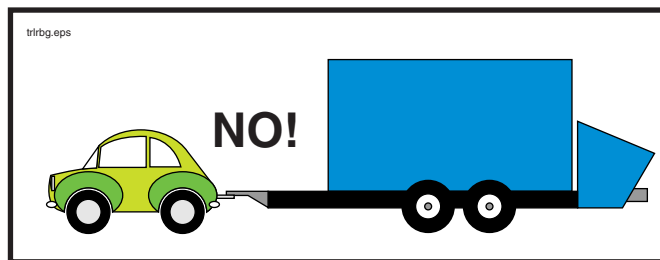

Figure 12
- 5.1 **WARNING** Be sure the towing vehicle is heavy enough and has enough horsepower and braking ability to tow the trailer. This is critical to maintaining control at highway speeds and to braking ability. If the trailer is heavier than the towing vehicle, braking distances will be greatly increased (Figure 12).